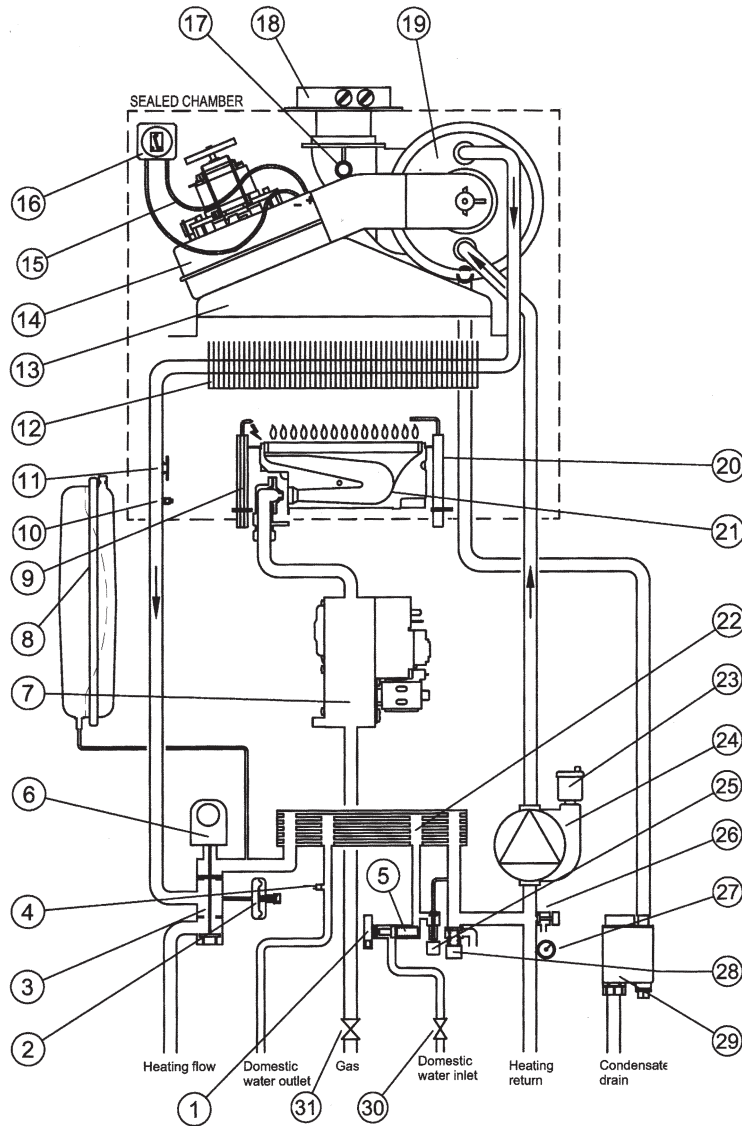

Figure 20
This device (2 - figure 20) enables the main burner only to be switched on if the system pressure is over 0.5 bars.
**Note:** Domestic Hot Water is guaranteed even if the NTC sensor (5 - figure 20) is damaged. In this case, the temperature control is carried out by the boiler flow temperature.